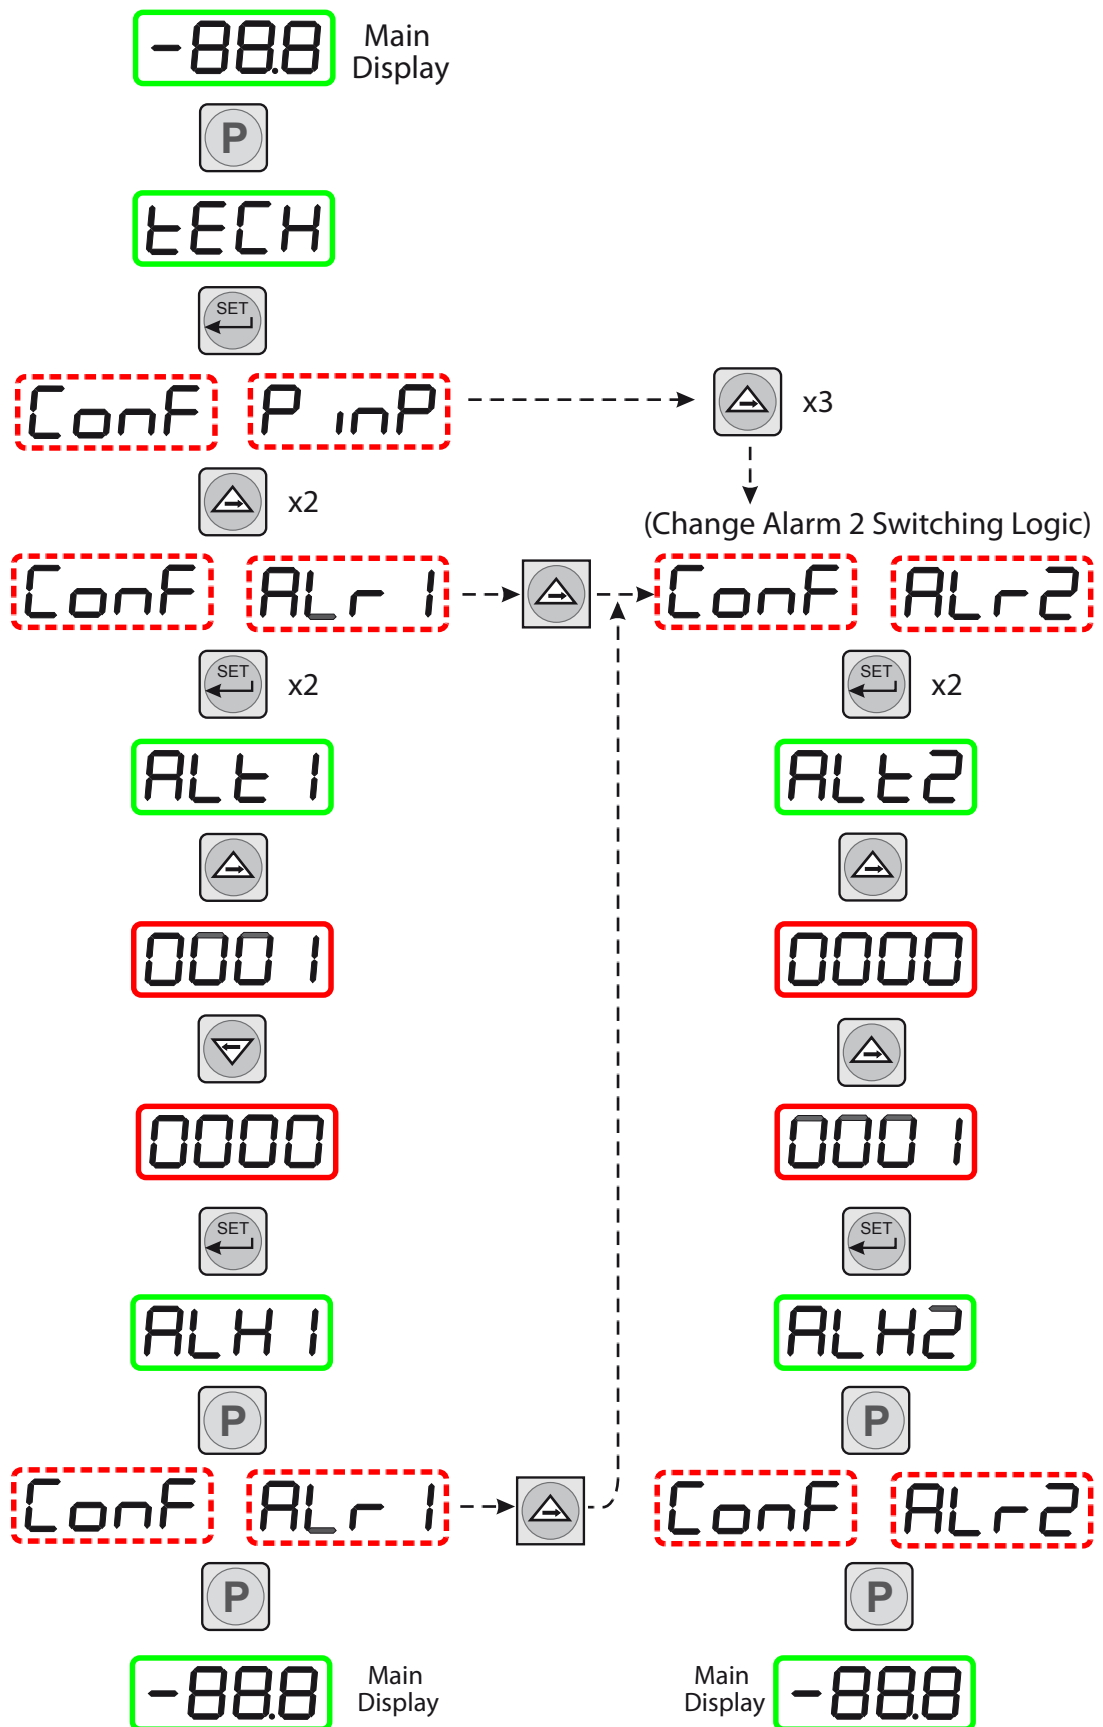

Figure 23 Change Alarm Switching Logic
*Figure 23* shows the operational key sequence.